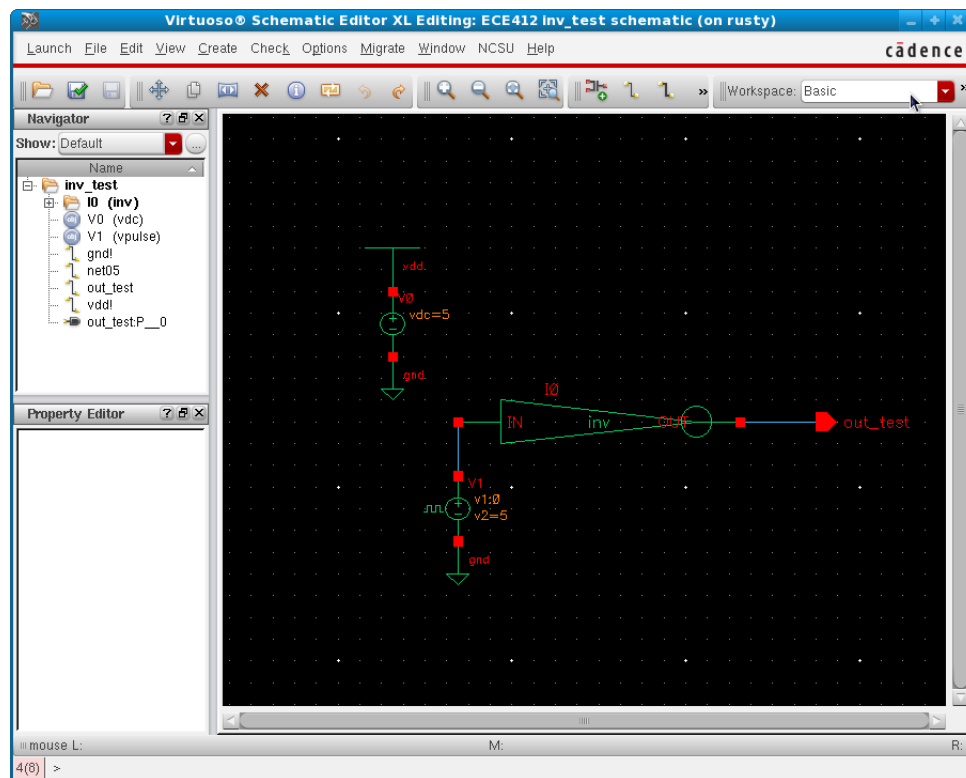

Figure 9: Inverter Test Circuit
5. Verify that you have a power supply with a valid DC voltage (vdc), a valid input signal (vpulse), a valid output monitor (pin) e.g. shown in figure 9